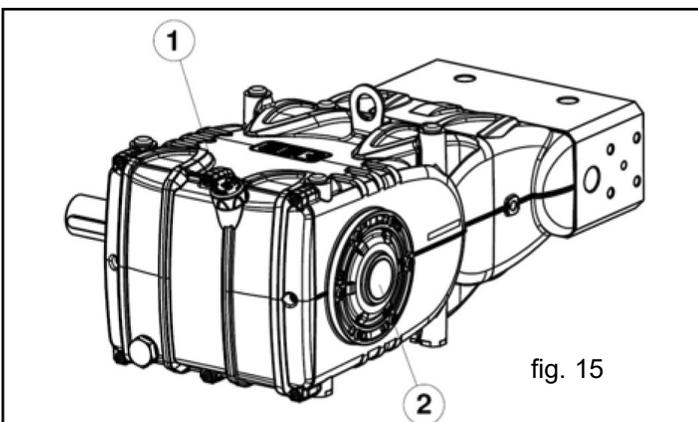

fig. 15
5. The oil level in the pump must be verified using the correct dipsticks (position 1, fig 15), and especially using the oil sight glass (position 2, fig. 15).